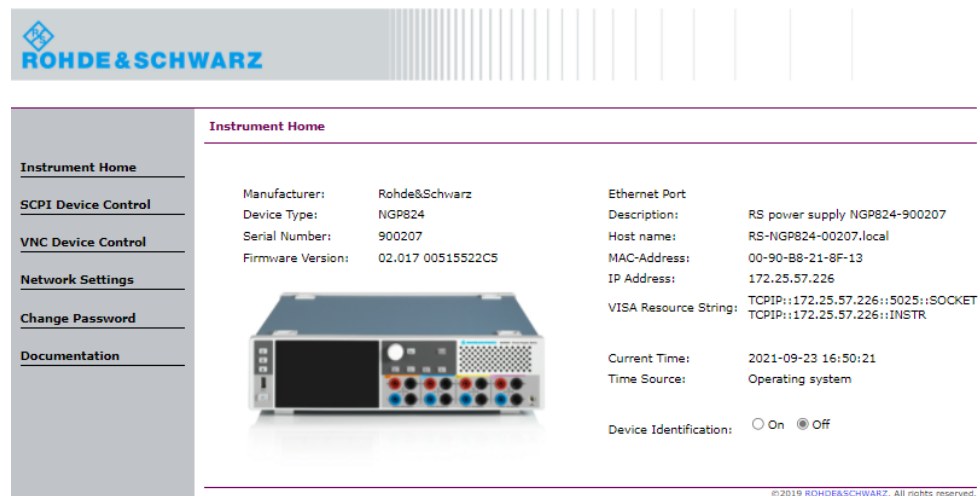

Figure 8-10: Instrument home webpage of a power supply model
4. Alternatively, connect to the instrument webpage using the IP address or hostname on the web browser URL bar. If connected successfully, the "Instrument Home" webpage is displayed. See Figure 8-10.
Displays instrument information (e.g. model, serial number, firmware version). See Figure 8-10.